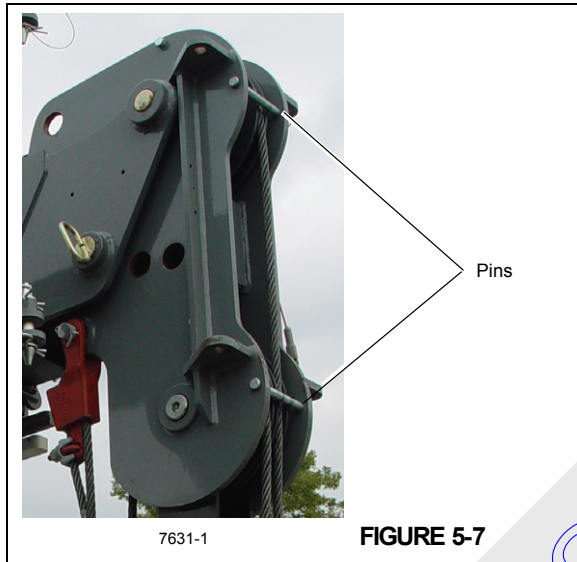

FIGURE 5-7
3. Remove two pins from boom nose Figure 5-7.